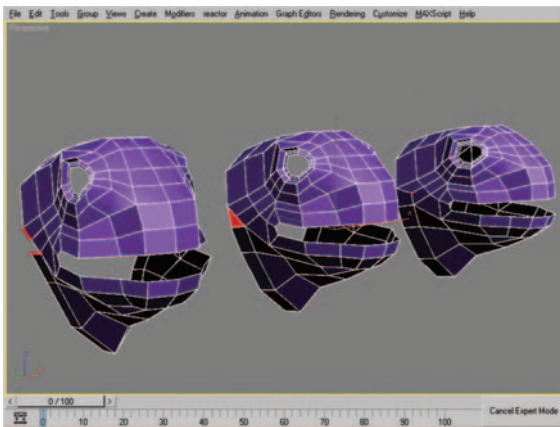

Figure 9.27 Edge selection (left), new polygon created with Bridge (center), and vertex moved (right).
27. Select the two edges shown in Figure 9.27 (left) and use Bridge to create a new polygon. This polygon is a four-sided triangle (Figure 9.27, center). Select and move the vert seen in Figure 9.27 (right) to create a square polygon.